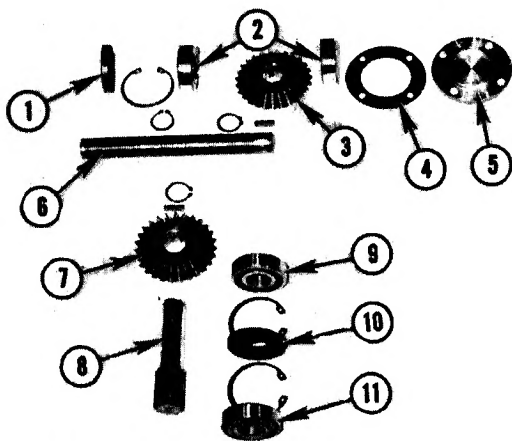

FIG. 10.9--GEARBOX COMPONENTS
7. Install roller bearing and seal into housing until seal is flush with outside of housing. Fig. 10.9.
13. Inspect all parts for wear or damage, replace as required. Refer to Fig. 10.9, for identification and sequence of parts.